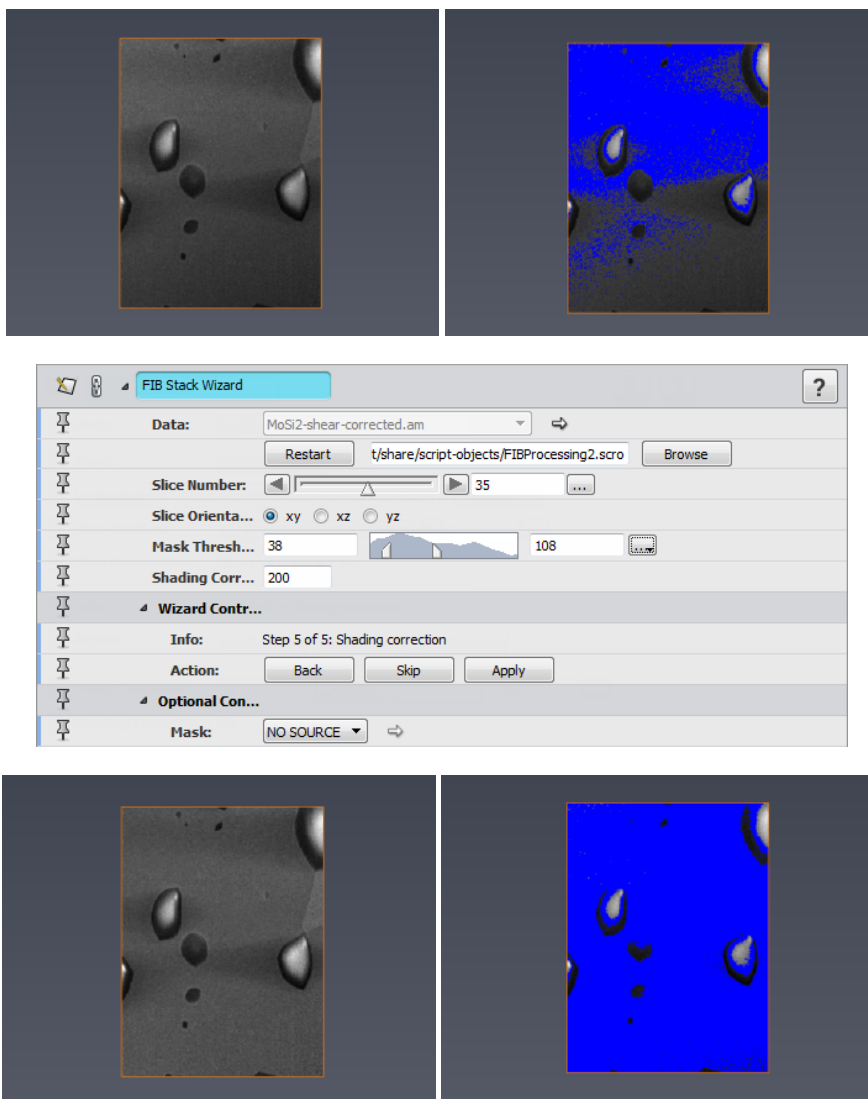

Figure 8.68: Shading correction with FIB Stack Wizard
- Change the Low mask threshold value. You can see the non-uniform distribution of background intensity. See the figure 8.68 below to adjust values.
- Change both thresholds to cover as much as possible the area to be approximated for background, excluding as much as possible the dark or bright features that could alter the background estimate. See the figure 8.68 below to adjust values.